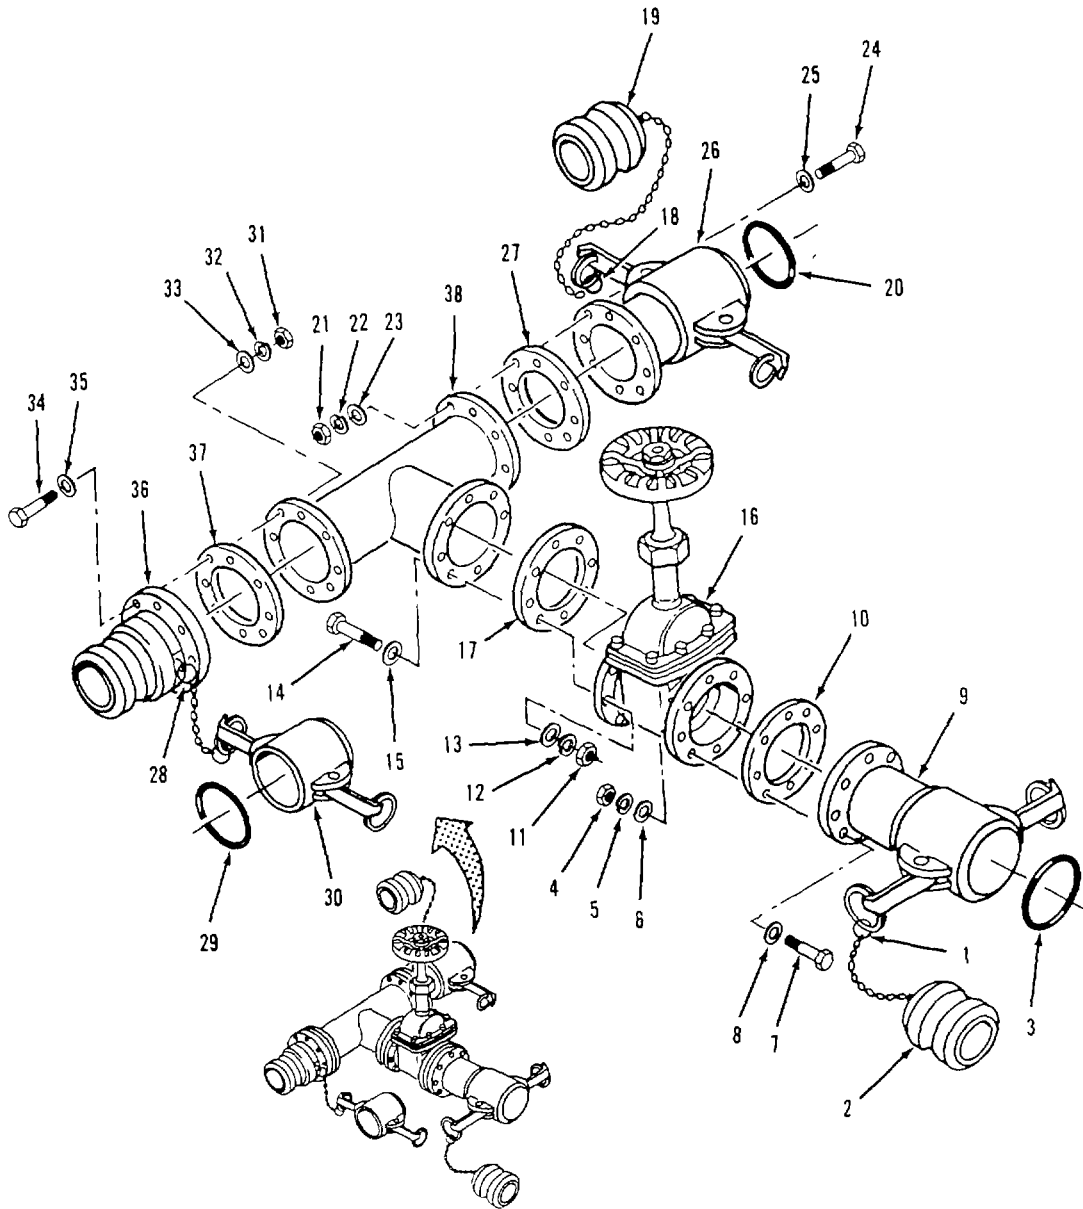

Figure 4-36. Tee and Gate Valve Assembly (9114-Y6) Disassembly.
- a. Disassembly. Refer to figure 4-36.
- (1) Disconnect ring (1) from female coupling (9) and remove plug (2).
- (2) Remove gasket (3) from female coupling (9).
- (3) Remove eight nuts (4), lockwashers (5), flat washers (6), screws (7) and flat washers (8).
- (4) Separate female coupling (9) and gasket (10) from gate valve (16).
- (5) Remove eight nuts (11), lockwashers (12), flat washers (13), screws (14) and flat washers (15).
- (6) Separate gate valve (16) and gasket (17) from tee (38).
- (7) Disconnect ring (18) from female coupling (26) and remove plug (19).
- (8) Remove gasket (20) from female coupling (26).
- (9) Remove eight nuts (21), lockwashers (22), flat washers (23) and screws (24) and flat washers (25).
- (10) Separate female coupling (26) and gasket (27) from tee (38).